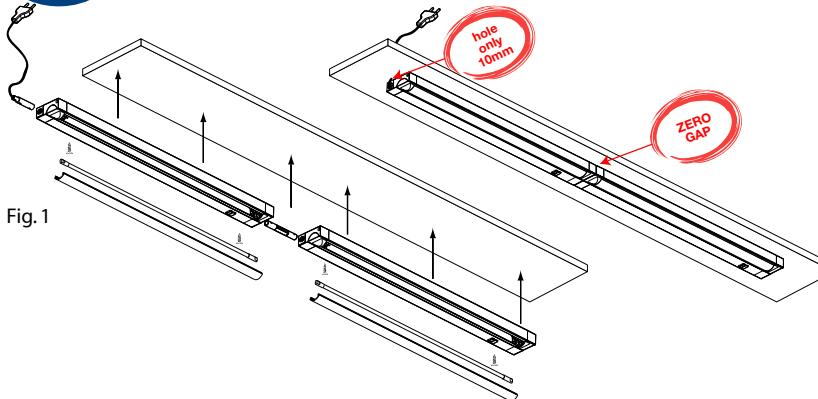

Fig. 1
- 8.1.7. Refit the tube and the screen fig. 1.